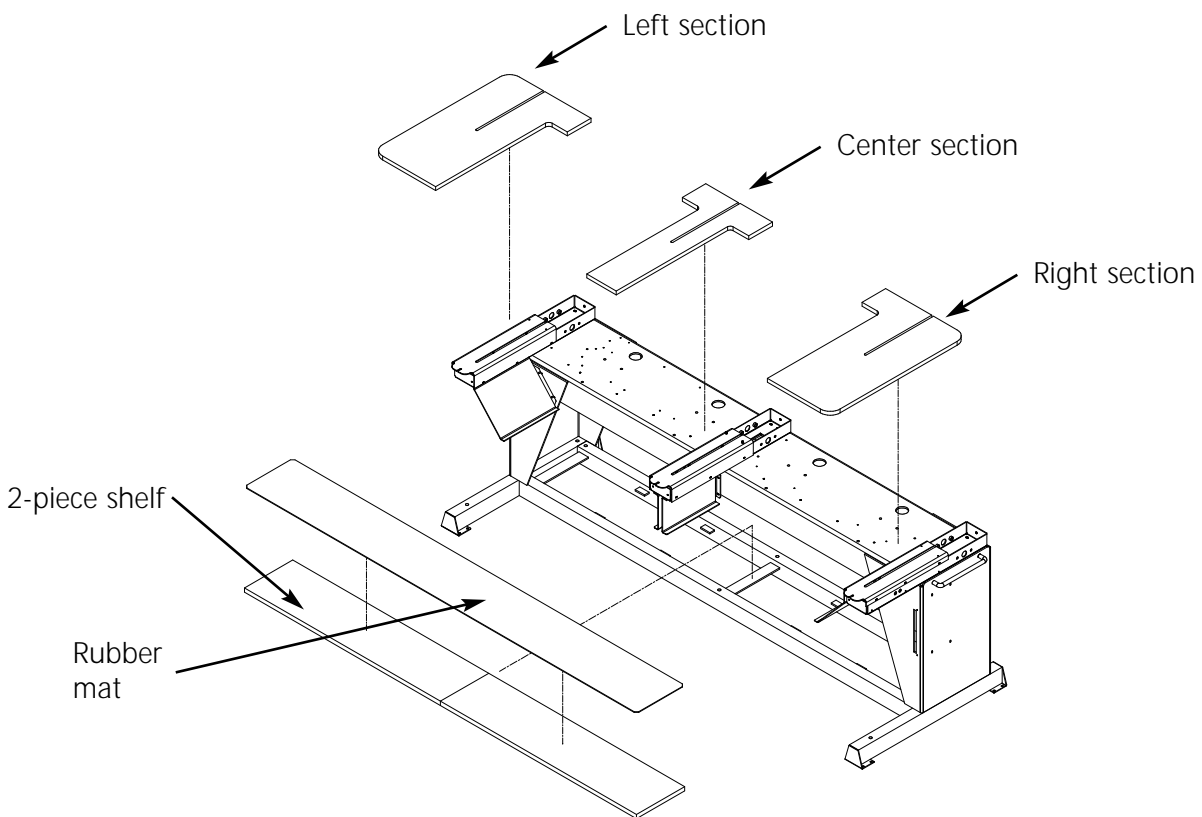
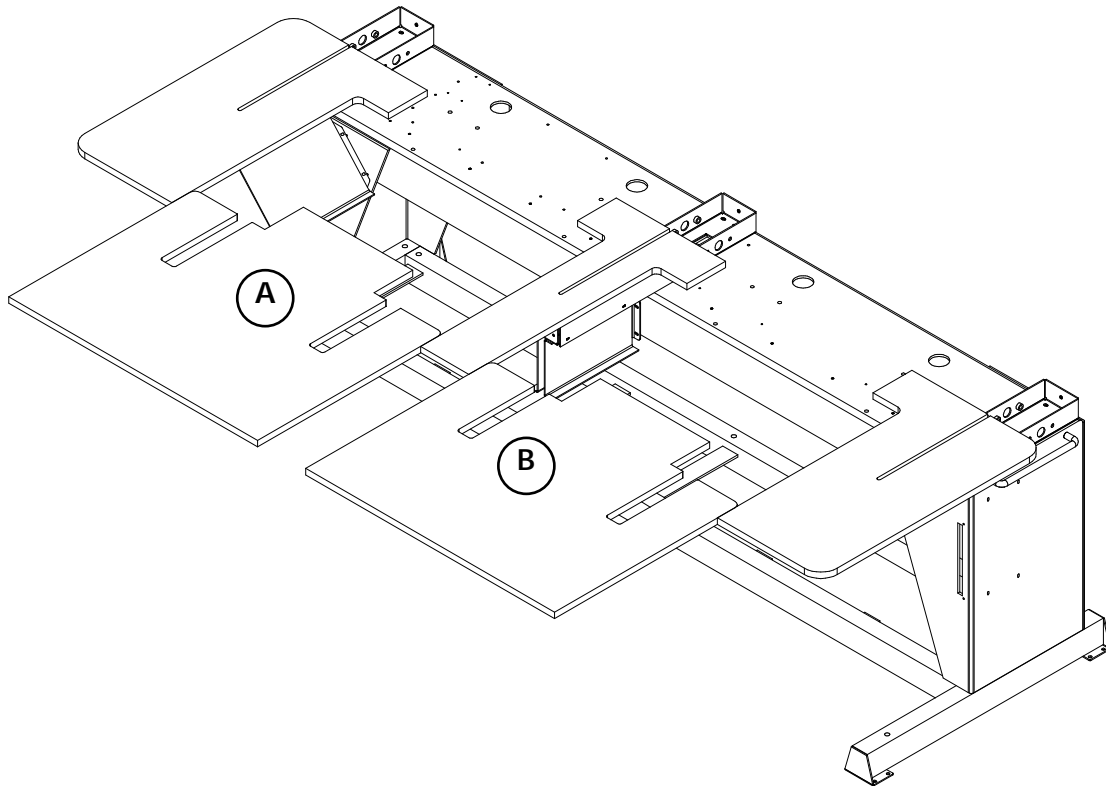

Figure 1-15
Figure 1-16
The tabletop is shipped in five parts (see Figure 1-15). The two ends and the center section slide into place in the positions shown in Figure 1-15. The remaining two sections slide into place as shown in Figure 1-16. This design makes it easy to remove the tabletop to embroider tubular goods, to embroider with a cap frame, or to perform routine maintenance.
2. There is a 2-section shelf and a covering mat that comes with the table top assembly (see Figure 1-15). Place the shelf pieces on top of the brackets located in the base of the machine and lay the mat on top of the shelf pieces.
3. Slide the last two pieces into place (see Figure 1-16). They fit on the table support tabs on the end and center sections.
You **MUST** remove all 5 tabletop inserts before embroidering tubular goods or caps on the EMT 10/4 or 10/4T. Failure to do so may result in damage to the equipment or bodily injury. You may use parts **A** and **B** of the tabletop (in Figure 1-16) in the LOW-ERED POSITION to support heavy garments during tubular embroidery only.